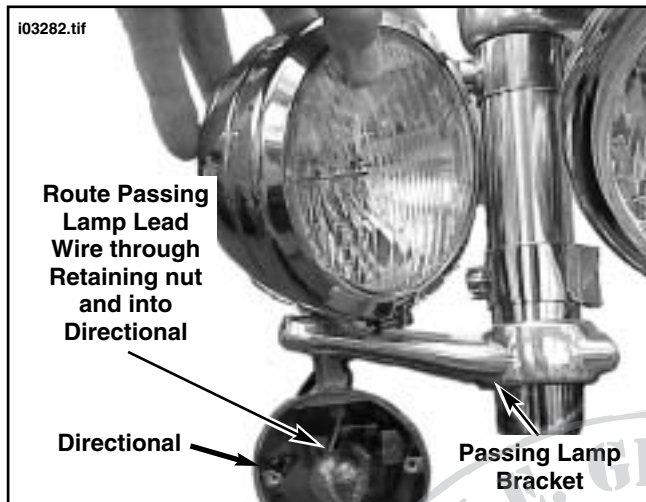

Figure 5. Install Passing Lamp To Directional
- See Figure 5. Route passing lamp lead wire through new retaining nut and into directional. Screw passing lamp onto directional. It may be necessary to loosen passing lamp bracket and pivot the lamp forward to allow clearance to rotate.
18. See Figure 5. Route passing lamp lead wire through new retaining nut and into directional. Screw passing lamp onto directional. It may be necessary to loosen passing lamp bracket and pivot the lamp forward to allow clearance to rotate.